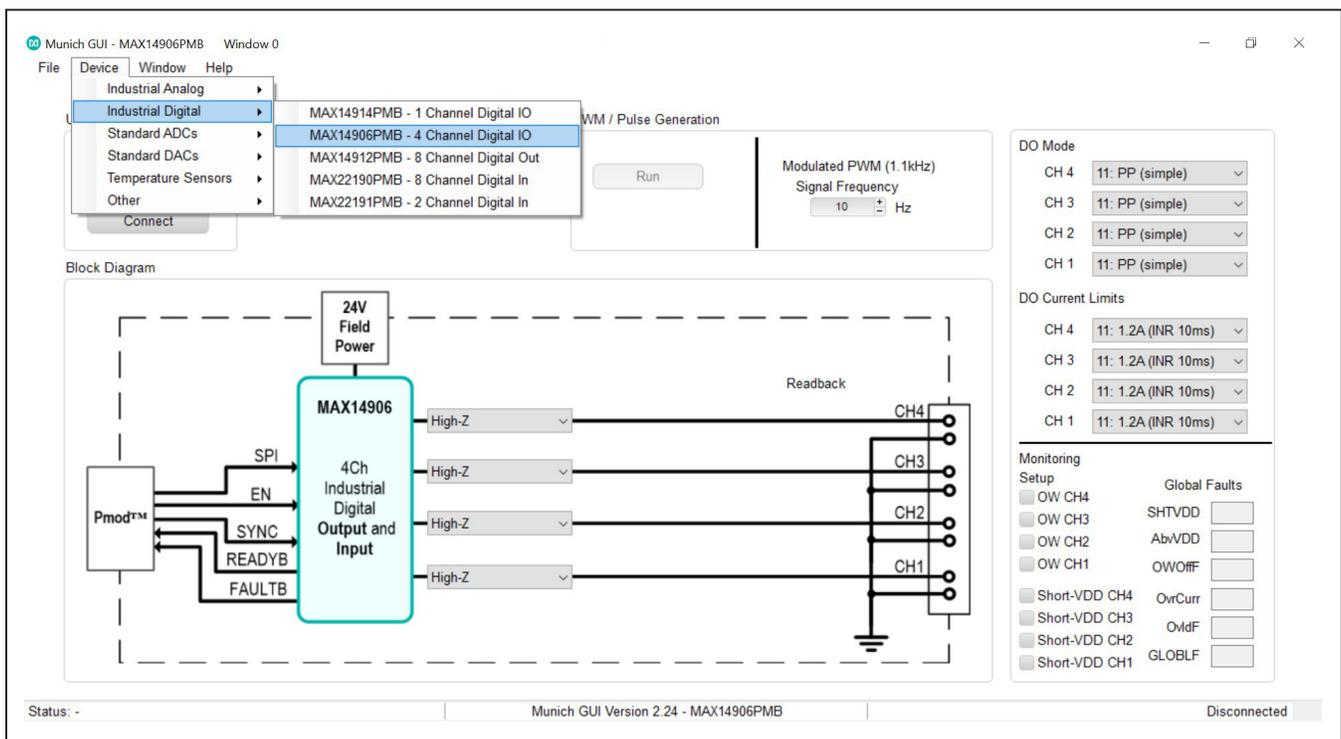

Figure 3. MAX14906PMB# Software (Munich GUI)
- 7) Once the hardware is ready to use, launch the Munich GUI software. The status bar in the GUI should display **Disconnected** in the bottom right corner. To configure the MAX14906PMB#, go to the **Device** tab, select **Industrial Digital**, then select the **MAX14906PMB** as shown in Figure 3.
The **Device** menu has options to select peripheral module as shown in Figure 3. In this case, select **Industrial Digital**, then select the **MAX14906PMB**. Use the **Scan**